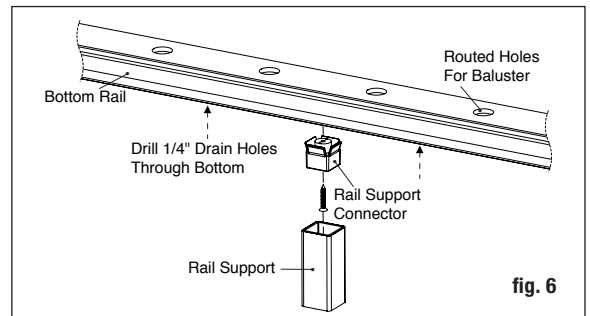

fig. 6
Step 7 Find the center of the underside of the bottom rail and attach the baluster connector included with the rail support using the screw provided. Check building code requirements for the maximum spacing between deck surface and bottom of rail (sweep); we recommend 3" but it can be less if desired. If necessary, trim the rail support to the determined height (fig. 6). **Drill two 1/4" drain holes through the bottom of the rail to prevent trapping water. Center drain holes between two baluster locations as baluster can block the pathway and stop water from properly draining.**